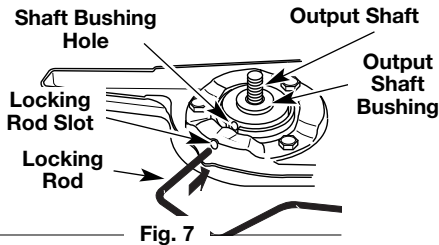
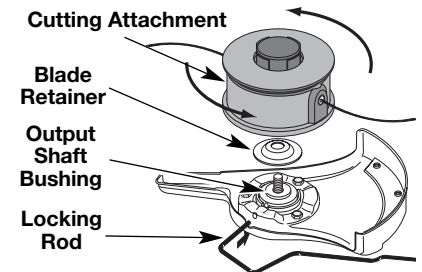

Fig. 7
Fig. 14
1. Align the shaft bushing hole with the locking rod slot and insert the locking rod into the shaft bushing hole (Fig. 7).
6. Align the shaft bushing hole with the locking rod slot and insert the locking rod into the bushing hole (Fig. 7).
1. Align the shaft bushing hole with the locking rod slot and insert the locking rod into the bushing hole (Fig. 7).
5. Align the shaft bushing hole with the locking rod slot and insert the locking rod into the bushing hole (Fig. 7). Place the blade retainer on the output shaft with the flat surface against the output shaft bushing (Fig. 14). Screw the cutting attachment counterclockwise onto the output shaft. Tighten securely.